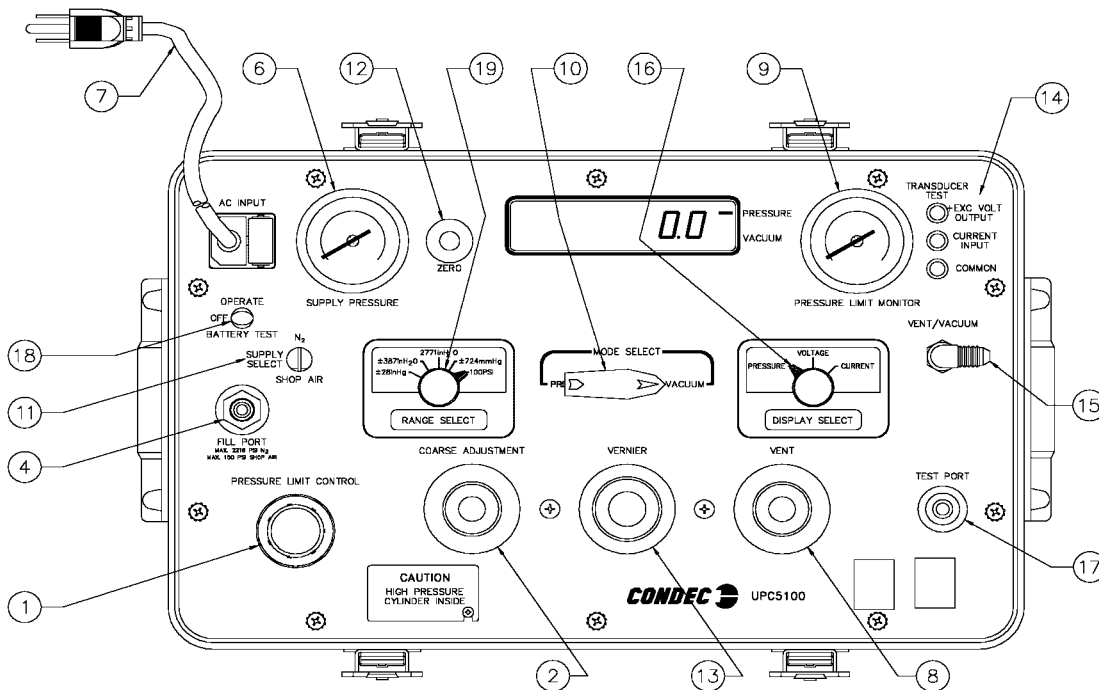

Figure 2-2. Initial Setup Procedure
To prepare for actual calibration usage, see Figure 2-2 below and proceed as follows:
NOTE: Connector pin designations are for reference only, and are no longer a connector on newer units. See Figure 2-2 on page 5 (14).